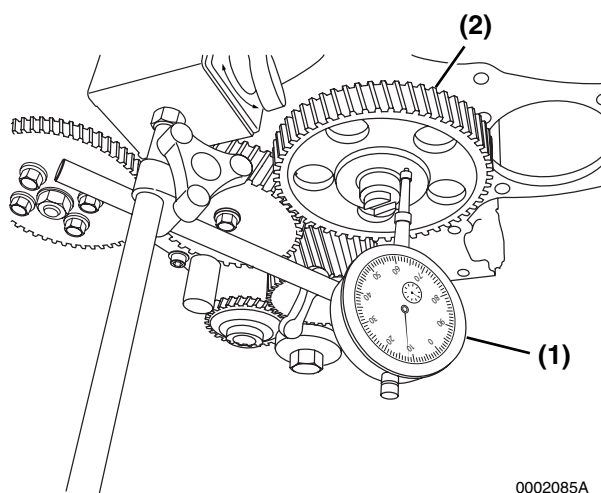

Figure 6-92
- Method A:** Install a dial indicator (Figure 6-92, (1)) on the cylinder block. Move the camshaft (Figure 6-92, (2)) back and forth to measure the end play. Record the measurement. See Camshaft on page 6-10 for the service limit.